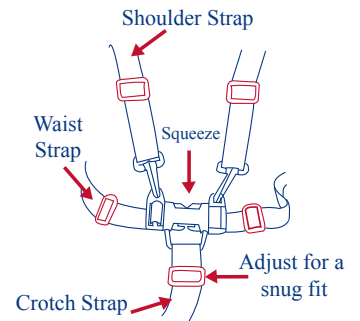

Figure 12b.
- Carefully place the child in the stroller seat and bring the safety harness around the child's waist and over the shoulders. Place the crotch strap between the child's legs. Insert the male end of each shoulder/waist belt into the buckle on the crotch strap. Tighten the harness to be snug around the child's waist and over the child's shoulders. Please see figure 12b.